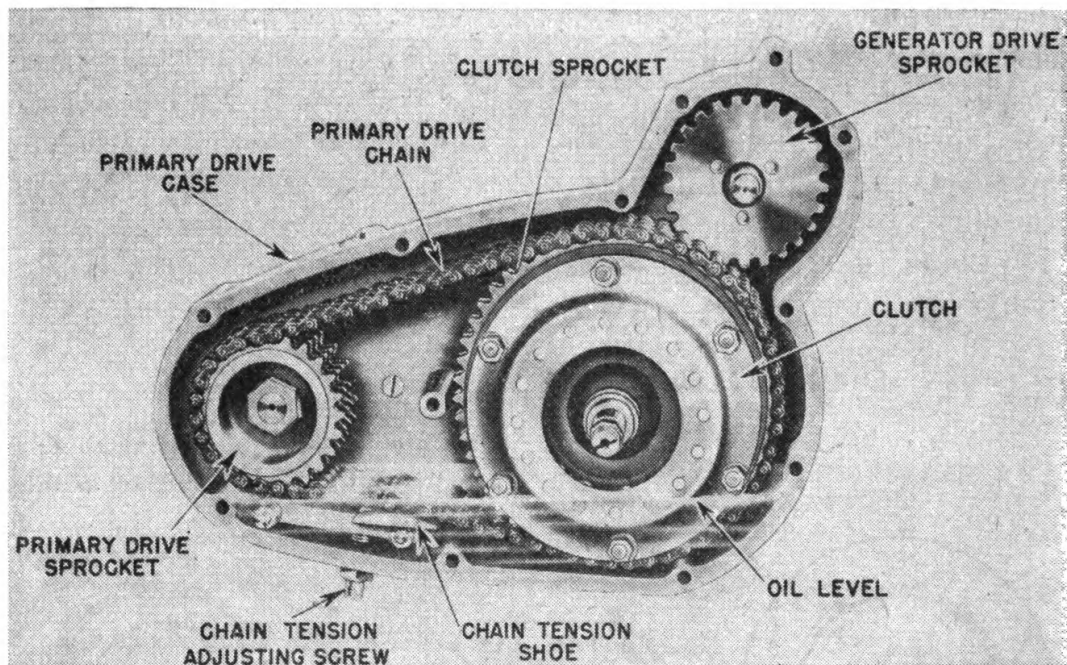

FIGURE 41.—Primary drive, oil bath lubrication.
*a. Wet type.*—Figure 41 (Indian) shows the sprockets and chain operating in a bath of oil. Teeth in the inner row on the clutch sprocket are machined down so that one row of the three-row primary